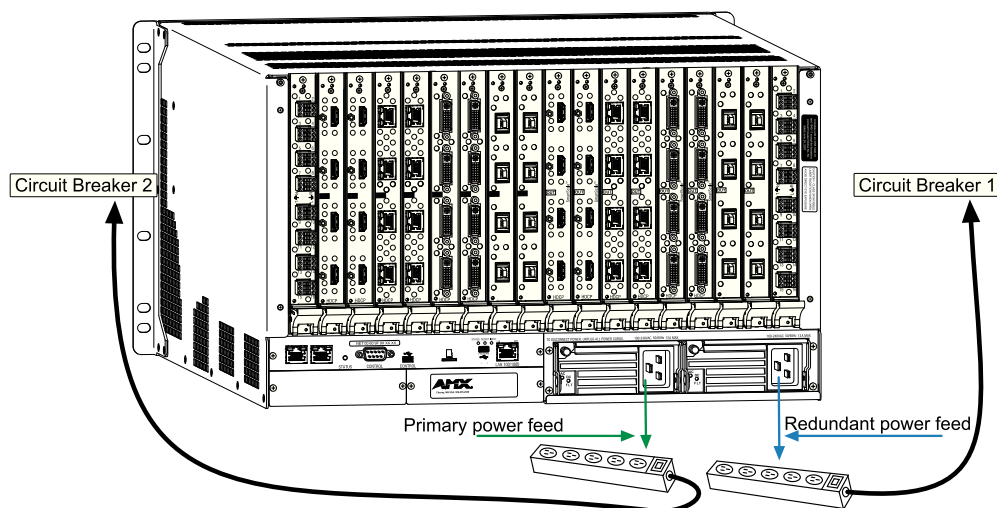

FIG. 23 Power setup for complete redundancy on Enova DGX 32
- **Enova DGX 32** – To take full advantage of the multiple power feeds and redundant power supplies, cable the primary power feed to an outlet connected to one 20 A circuit breaker. The redundant power feed should be cabled to an outlet connected to a second 20 A circuit breaker (FIG. 23).